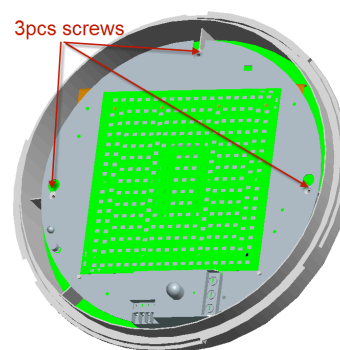

Fig 1
• **Emergency function test button**, (see Fig 1) after installation with the mains supply powered on, push the test button to test emergency function, if the LED brightness is reduced to emergency brightness (30% of full brightness), the function is working.